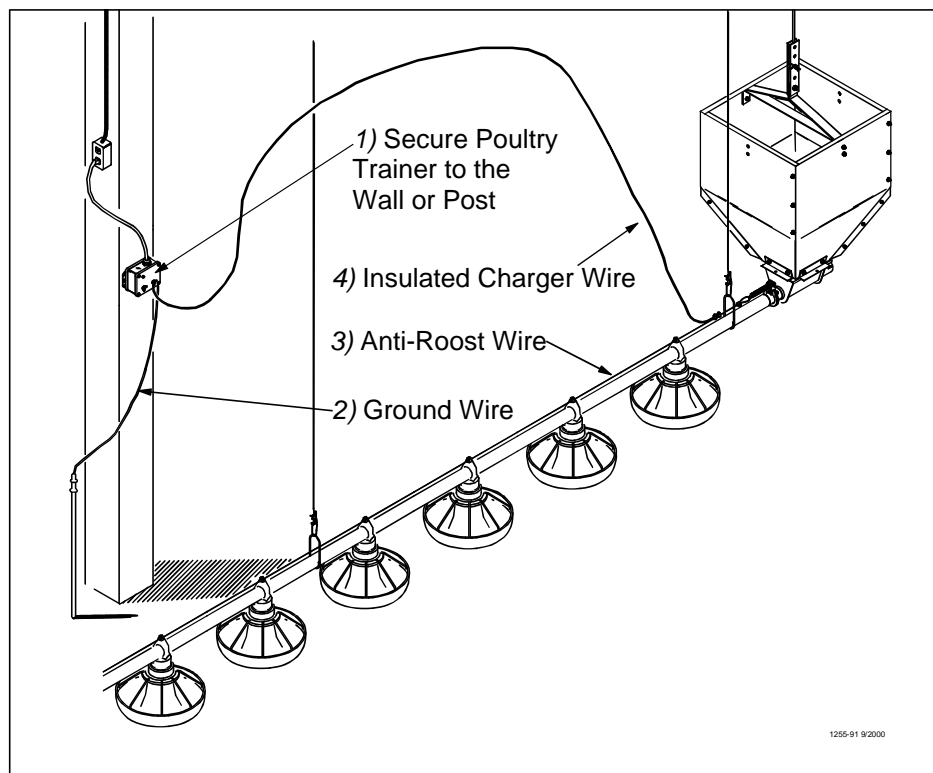

Figure 41. Poultry Trainer Installation
11. Install the Poultry Trainer or Line Charger, as shown in **Figure 41 or 42**.
The Poultry Trainer is used to power all Anti-Roost lines in a house. See **Figure 41**.